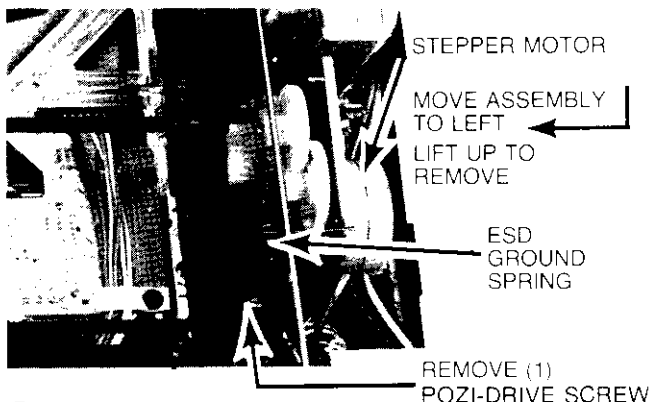

Fig. 13—Arm Drive Assembly
1. With cabinet top and front panel removed—remove one (1) pozi-drive (+ head) screw Fig. 13.
3. Remove stepper motor from arm drive assembly by removing two (2) small pozi-drive (+ head) screws and lay stepper motor to the side out of the way.
2. Cut four (4) wire ties and pull stepper motor cable and plug assembly up through baseplate.
3. Remove two (2) small pozi-drive (+ head) screws used to mount stepper motor and remove stepper motor (Fig. 13).